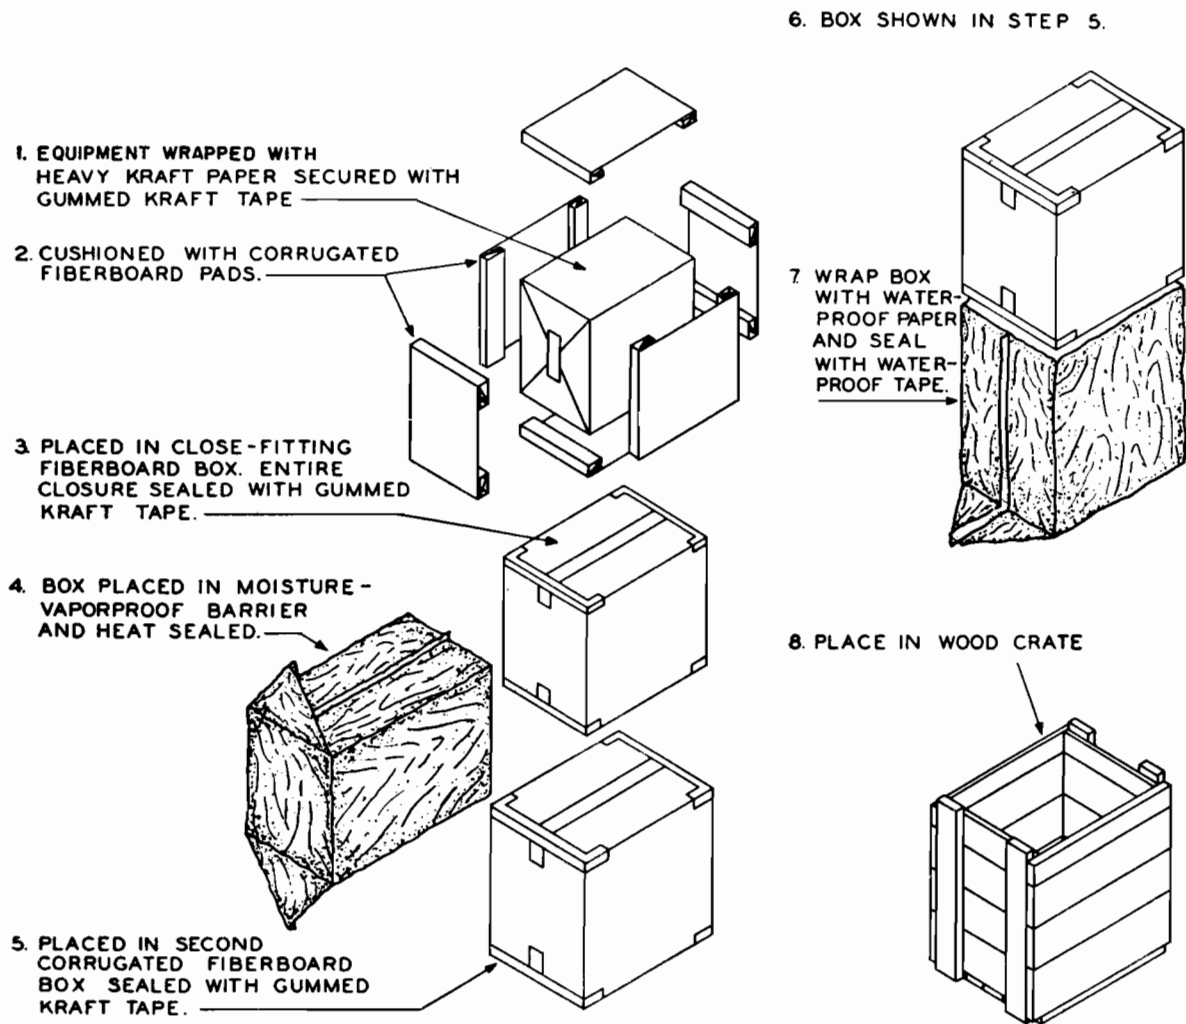

Figure 4. Typical packaging for export shipment.
Signal Generator TS-497B/ URR is packaged in a moisture-vaporproof container and packed in a wooden shipping container. Figure 4 shows a typical equipment packed for export. The packed equipment weighs approximately 75 pounds and has a volume of 3.5 cubic feet. For
b. Step-By-Step Instructions for Uncrating and Unpacking (fig. 4).
- (1) Place the packing case as near the operating position as convenient.
- (2) Cut and fold back the steel straps.
- (3) Remove the nails with a nail puller. Remove the top cover.
- (4) Remove the waterproof metal container and any filler material.
- (5) Open the four flaps on the top of the inner corrugated container.
- (6) Remove the equipment from its inner container and place it on the workbench.
- (7) Inspect the equipment for possible damage incurred during shipment.